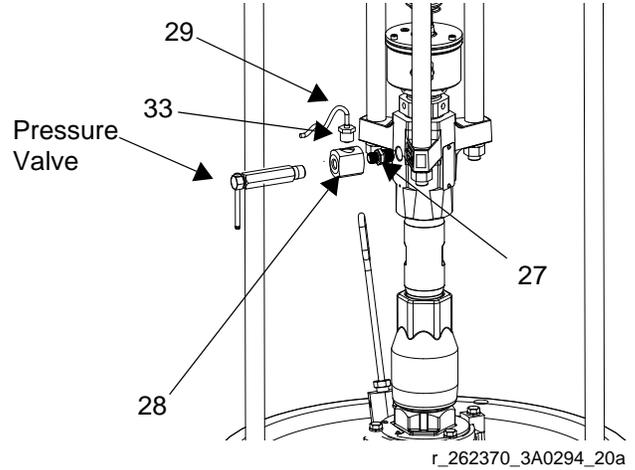

FIG. 75: Install Pressure Sensor
- b. Apply the supplied sealant to the adapter (27), the manifold (28), and the pressure valve. Install all three in the order listed. See FIG. 75.
- d. Install the o-ring (33) and pressure sensor (29); use zip ties (26) to secure the cable to the ram and air hose.